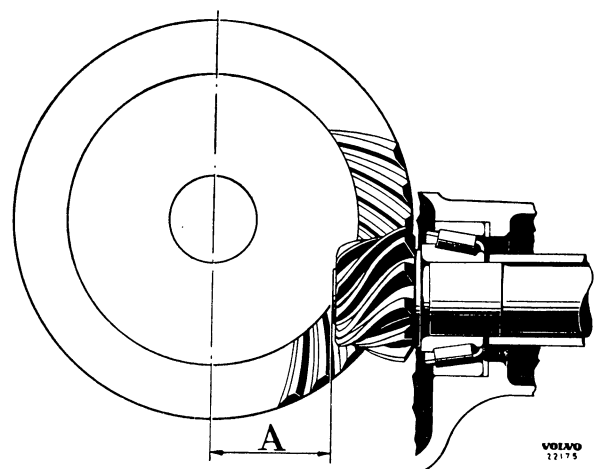

Fig. 4-147. Pinion location
2. The pinion should have a certain nominal measurement (A, Fig. 4-147) to the centre line of the crown wheel. Due to tolerances in the manufacturing, there are deviations from the nominal measurement.